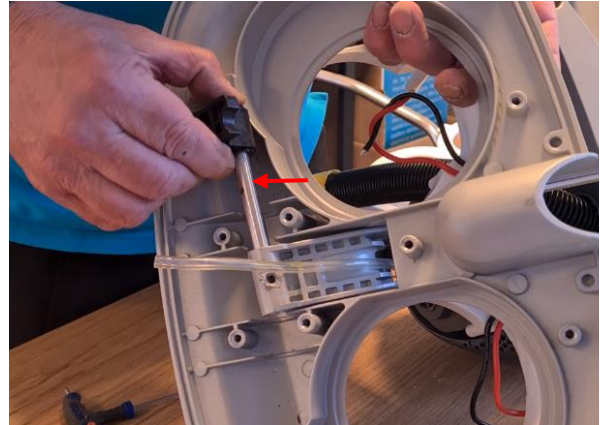

Figure 181
- and the bolt shown in Figure 181.